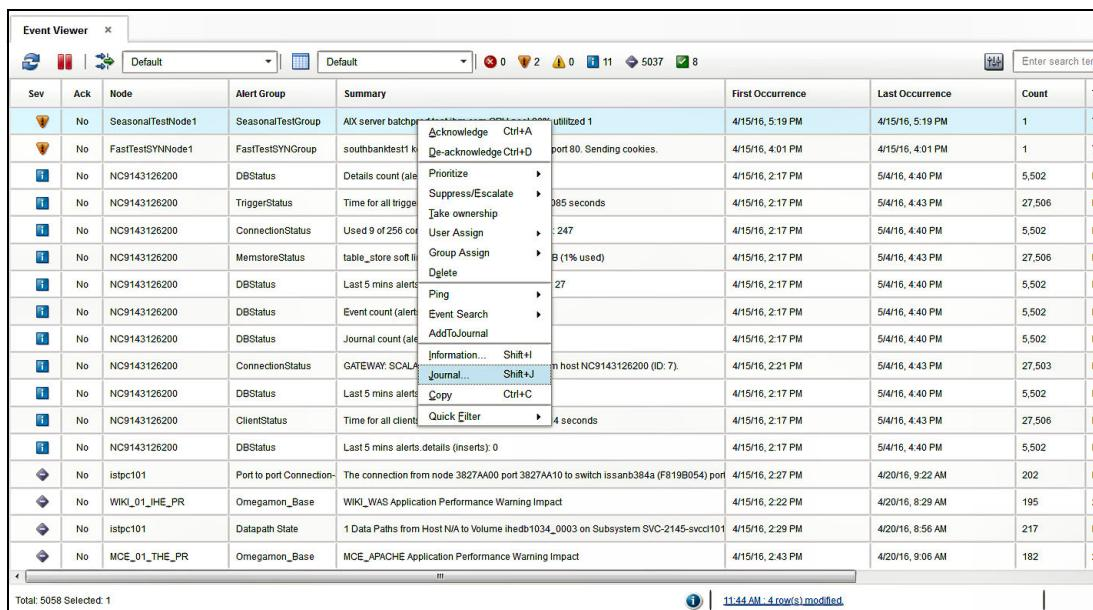

Figure 8-8 AddToJournal menu option
- He adds a description to the Event Journal so that the information is available for the person who is resolving the ticket. The description is added by clicking the **AddToJournal** option from the right-click menu or pressing Shift+J, as shown in Figure 8-8.